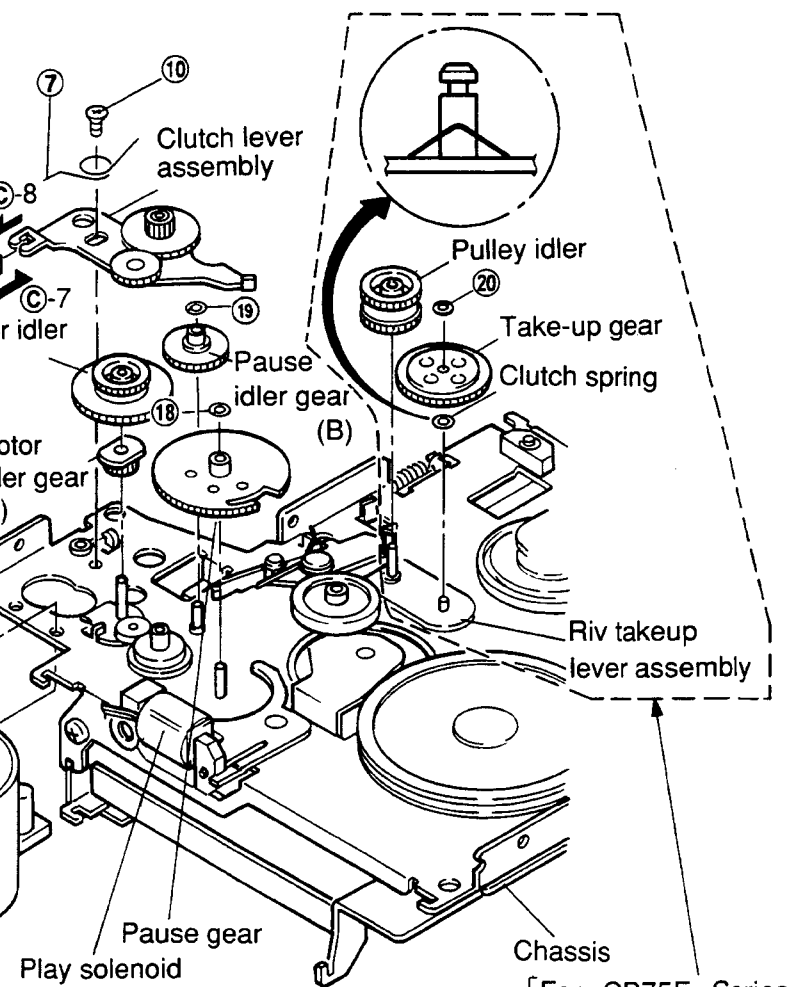
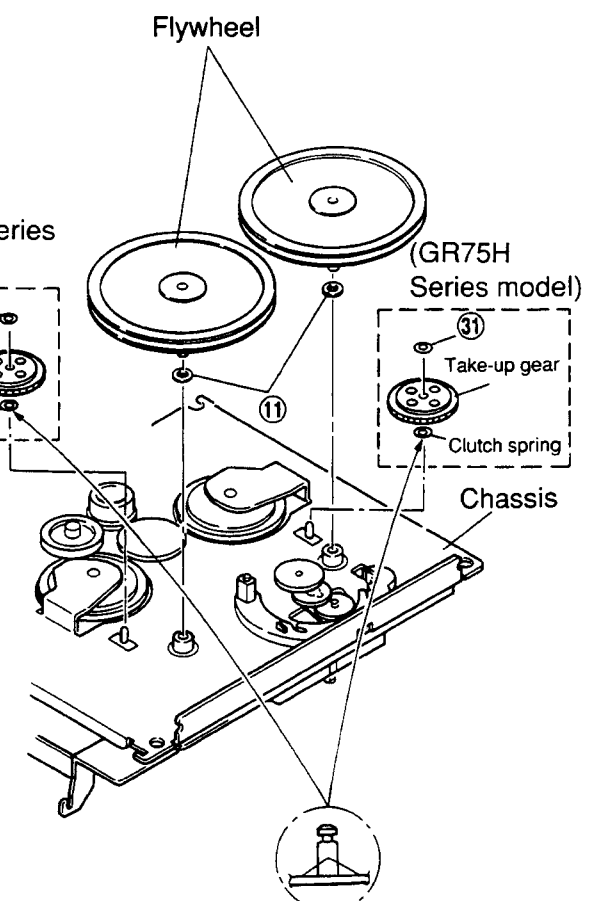
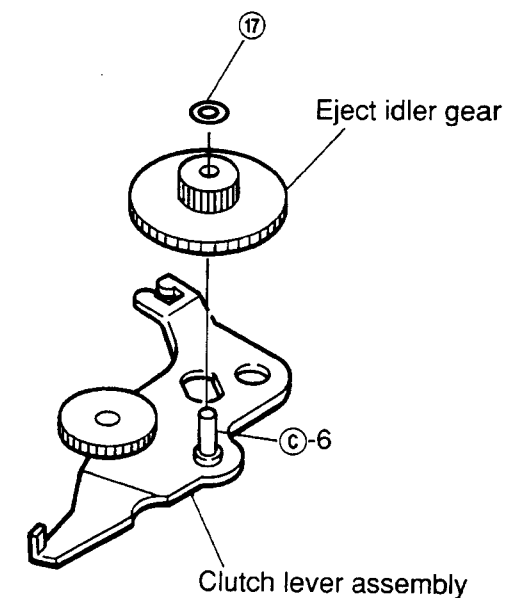

Figure 10
Figure 12
Figure 15
- (1) After removing the belt, remove spring ⑦ as shown in Figure 10.
- (3) Remove two screws ⑨ and ⑩, and remove the motor, taking care not to damage the motor idler gear. (Refer to Figure 10.)
- (4) Mount the new motor following the removal steps in the reverse order.
- (1) After removing the belt, pull out the two flywheels. Take care not to loose the polyslider washer ⑪ located between the flywheel and the chassis. (Refer to Figure 12.)
- (2) Fix the polyslider washer to the new flywheel and mount the flywheel to the chassis.
- (2) Remove screw ⑨ and remove the solenoid as shown in Figure 10.
- (3) Align position ①-1 of the new solenoid with position ①-2 of the lever and fasten the screw as shown in Figure 10.
- (4) Lead the wire through the tube and solder it.
- (1) After removing the motor, remove the motor idler gear and the motor idler gear (B) and remove the clutch lever assembly as shown in Figure 10.
- (2) Remove M1.2 lock washer ⑰ and remove the eject idler gear as shown in Figure 15.
- (3) Mount the new gears and clutch lever following the removal steps in the reverse order.
Note: When mounting the gears to the lever, apply grease (PG-671) to the position C-6 as shown in Figure 15. Align the position C-7 with the position C-8 and mount the clutch lever as shown in Figures 10 and 15.
- (1) Remove M1.2 lock washer ⑱ and remove the pause gear pulling it up from the stud of the chassis as shown in Figure 10.
- (2) Mount the new gear following the removal steps in the reverse order.
- (1) After removing the motor and the motor idler gear, remove M1.2 lock washer ⑲ and remove the gear by pulling it up from the stud of the chassis as shown in Figure 10.
- (2) Mount the new gear by following the removal steps in the reverse order.
- (1) After removing the belt and the pulley idler gear, remove M1.2 lock washer ⑳ by pulling it up from the stud of the riv take-up lever assembly as shown in Figure 10. After removing the Flywheel, remove M1.2 lock washer ㉑ and remove the gear by pulling it up from the stud of the chassis as shown in figure 12. [For GR75H Series model]
- (2) Remount the take-up gear following the removal steps in the reverse order.